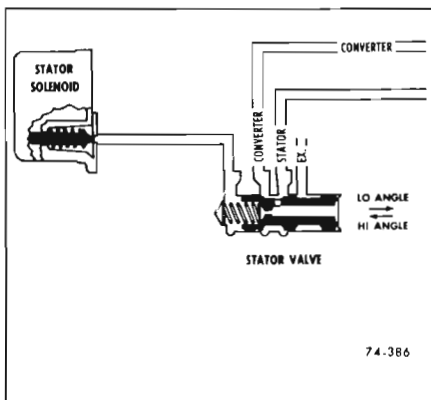

Figure 74-15—Stator Valve
**g. Stator Control Valve (See Figure 74-15)**